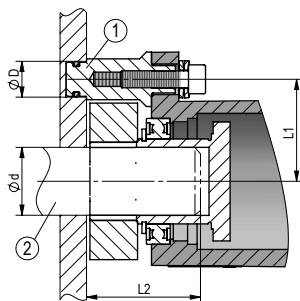
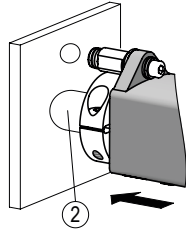
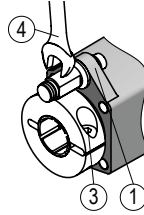

Fig. 1: Mounting dimensions
Fig. 2: Mounting
Fig. 3: Fastening torque for screws
- ▶ Ensure a low shaft and angle offset between shaft and accommodation bore by applying appropriate manufacturing methods (see Fig. 1 + Tab. 1).
If torque pin (see Fig. 3) is mounted improperly, this will lead to a destruction of the casing.
### Preparing mounting (Fig. 1, Fig. 2, Fig. 3):
### Mounting (Fig. 1, Fig. 2, Fig. 3):